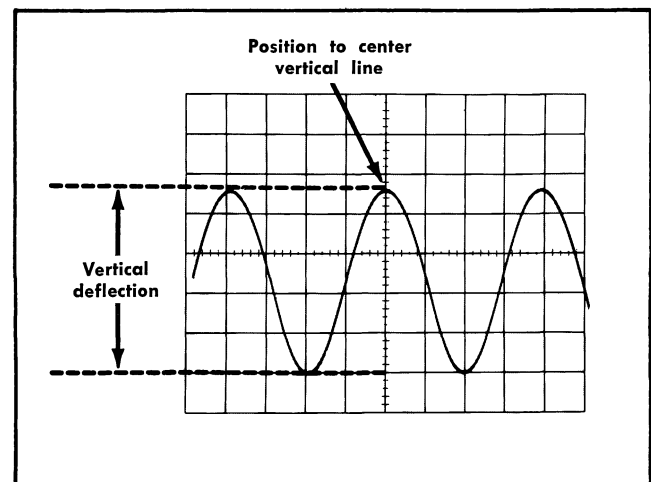

Fig. 2-14. Measuring peak-to-peak voltage of a waveform.
6. Turn the vertical POSITION control so the lower portion of the waveform coincides with one of the graticule lines below the center horizontal line, and the top of the waveform is on the viewing area. With the horizontal POSITION control, move the display so one of the upper peaks lies near the center vertical line (see Fig. 2-14).
EXAMPLE. Assume that the peak-to-peak vertical deflection is 4.6 divisions (see Fig. 2-14) using a 10X attenuator probe and a VOLTS/DIV switch setting of .5.